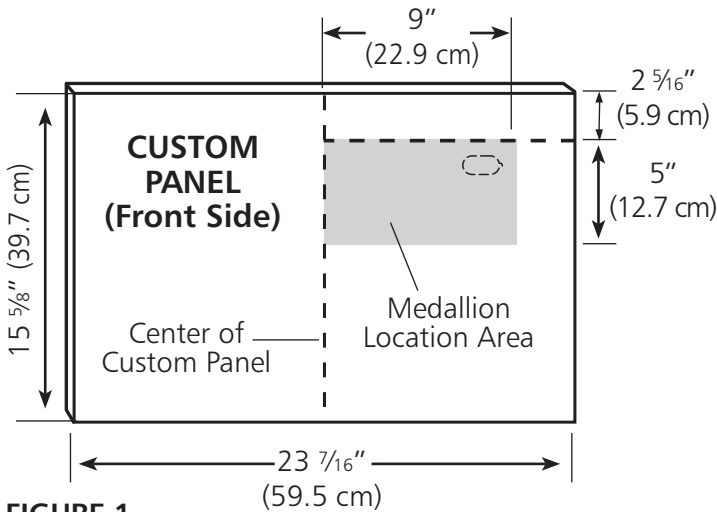

FIGURE 1
- 1) Cut the custom door panel to size as shown (See figure 1). The custom panel may be wider than the dishwasher in order to match the surrounding cabinets.
- 3) On the front side of the custom door panel, measure, mark and cut a hole for the medallion to size as shown (See figures 1 & 2).
NOTE: The medallion must be placed within the specified medallion area. Do not locate outside of this specified area (See figure 1).